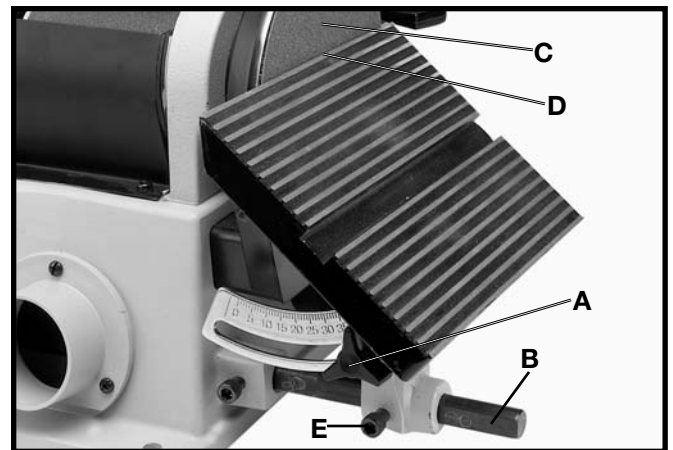

Fig. 30
1. The table can be tilted up to 45 degrees to the right by loosening the table lock knob (A) Fig. 30, tilting the table to the desired angle, and tightening table lock knob (A).
2. **⚠️ WARNING: AFTER TILTING, THE TABLE ASSEMBLY MUST BE REPOSITIONED ON THE SUPPORT ROD (B) FIG. 30, TO PROVIDE A MAXIMUM OF 1/16 INCH DISTANCE BETWEEN THE SANDING DISC (C), AND THE EDGE (D) OF THE TABLE, TO AVOID TRAPPING THE WORK OR FINGERS BETWEEN THE DISC AND TABLE. TO REPOSITION THE TABLE ASSEMBLY, LOOSEN SCREW (E), MOVE TABLE ASSEMBLY ON ROD (B), AND TIGHTEN SCREW (E).**